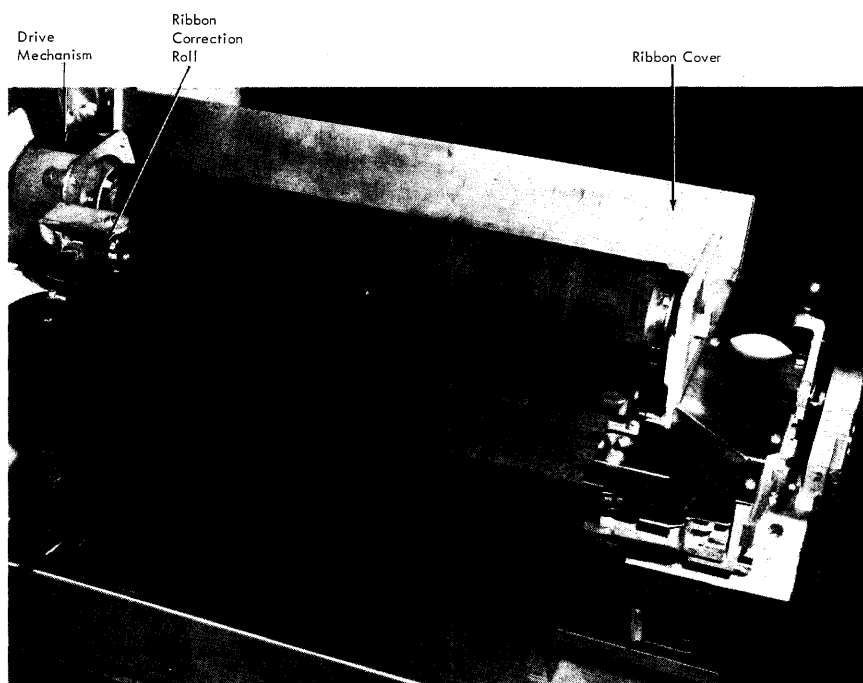

Figure 30. Ribbon Mechanism
3. Open the ribbon cover (Figure 30).